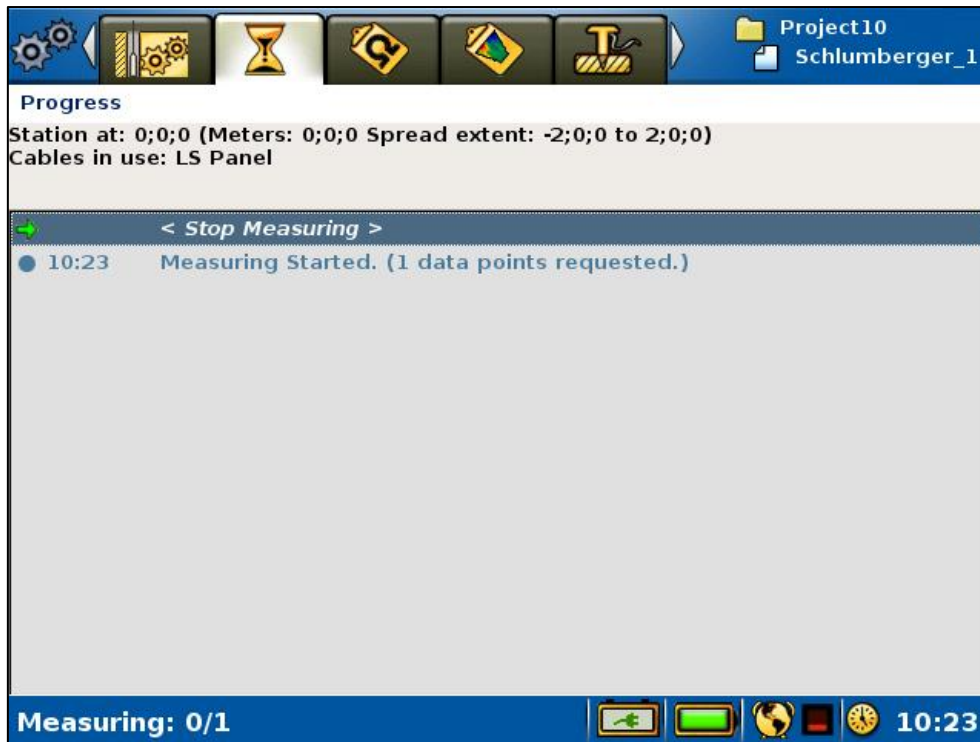

Figure 60 Progress Page in VES mode during on-going measuring
Figure 60 shows the *Progress Page* during a VES measurement. The measurement can be paused, stopped and resumed as follows.
- Move the highlight to the <Stop Measuring> row (Figure 60)